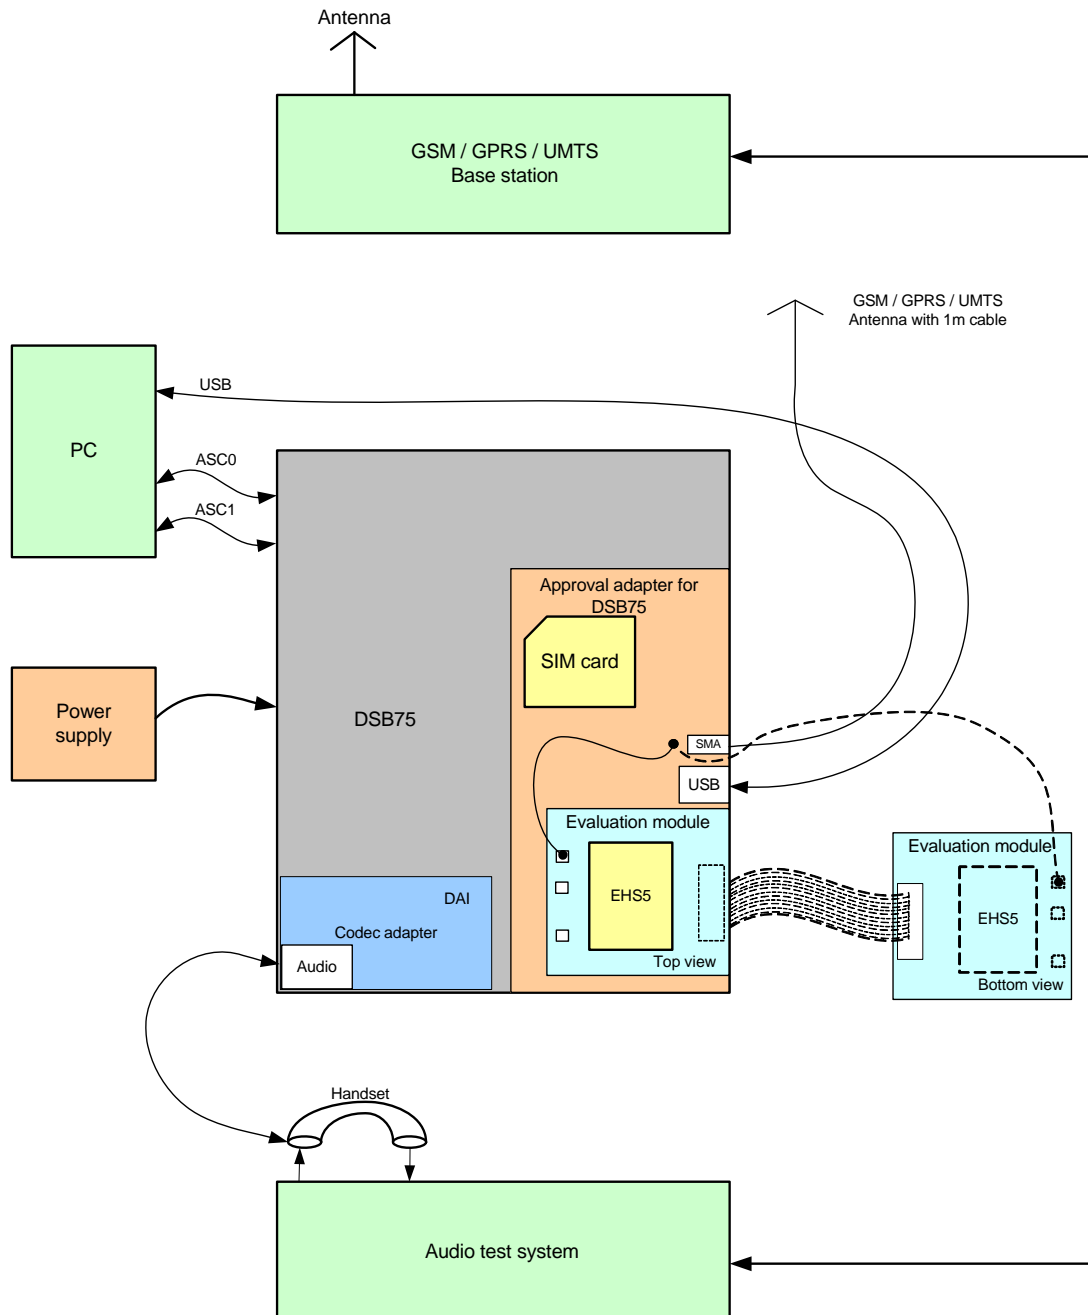

Figure 66: Reference equipment for Type Approval
1. For RF performance tests a mini-SMT/U.FL to SMA adapter with attached 6dB coaxial attenuator is chosen to connect the evaluation module directly to the GSM/UMTS test equipment instead of employing the SMA antenna connectors on the EHS5-E/EHS5-US-DSB75 adapter as shown in Figure 66. The following products are recommended: